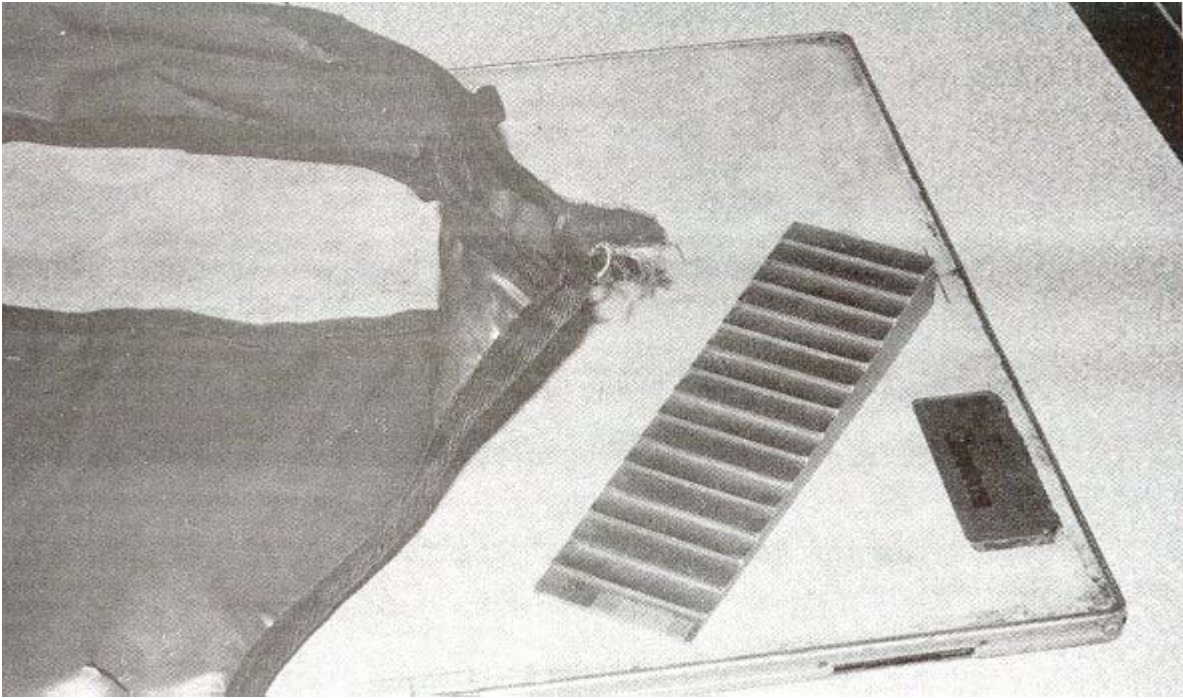

Figure 11-1. Test object in the corner while testing lead apron.
- (1) 80 kVp.
- (2) 5 mAs.
- b. Place the test object on one corner of the film (see figure 11-1).